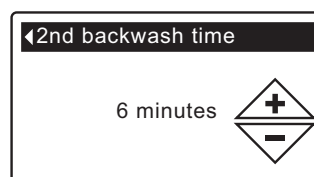

FIG. 74
- 8c. **Second backwash time:** Press the UP (▲) or DOWN (▼) buttons to change the second backwash time. Hold the button down to rapidly advance. The time can be set from 1 to 30 minutes (See Figure 74).